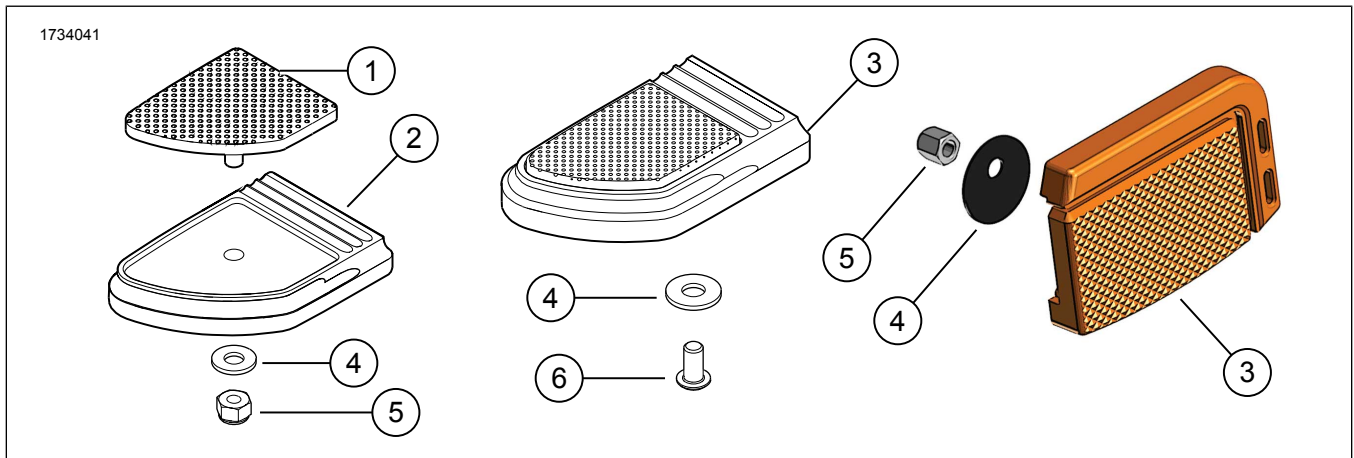

Figure 1. Kit Contents: Brake Pedal Pad Kit
1. Figure 1 Align **new** brake pedal pad (1) with recess in trim cover (2).
3. Install washer (4) onto threaded stud.
4. Install 1/4-20 hex locknut (5) onto threaded stud. Tighten.
1. Figure 1 Align **new** brake pedal assembly (3) with vehicle foot brake lever.
2. Apply threadlocker to screw (6).